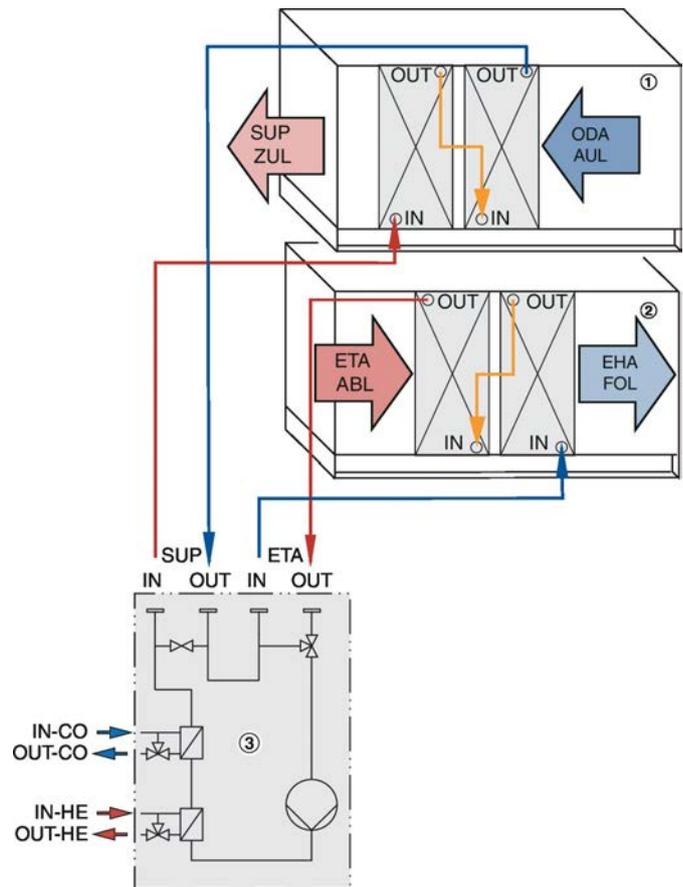

Fig. 20: Hydraulic system connection (example)
- ① Supply air unit
- ② Extract air unit
- ③ hydraulic unit
1. ▶ Connect the heat exchanger with the hydraulic unit (Fig. 20).
Make the required connections (Fig. 20).